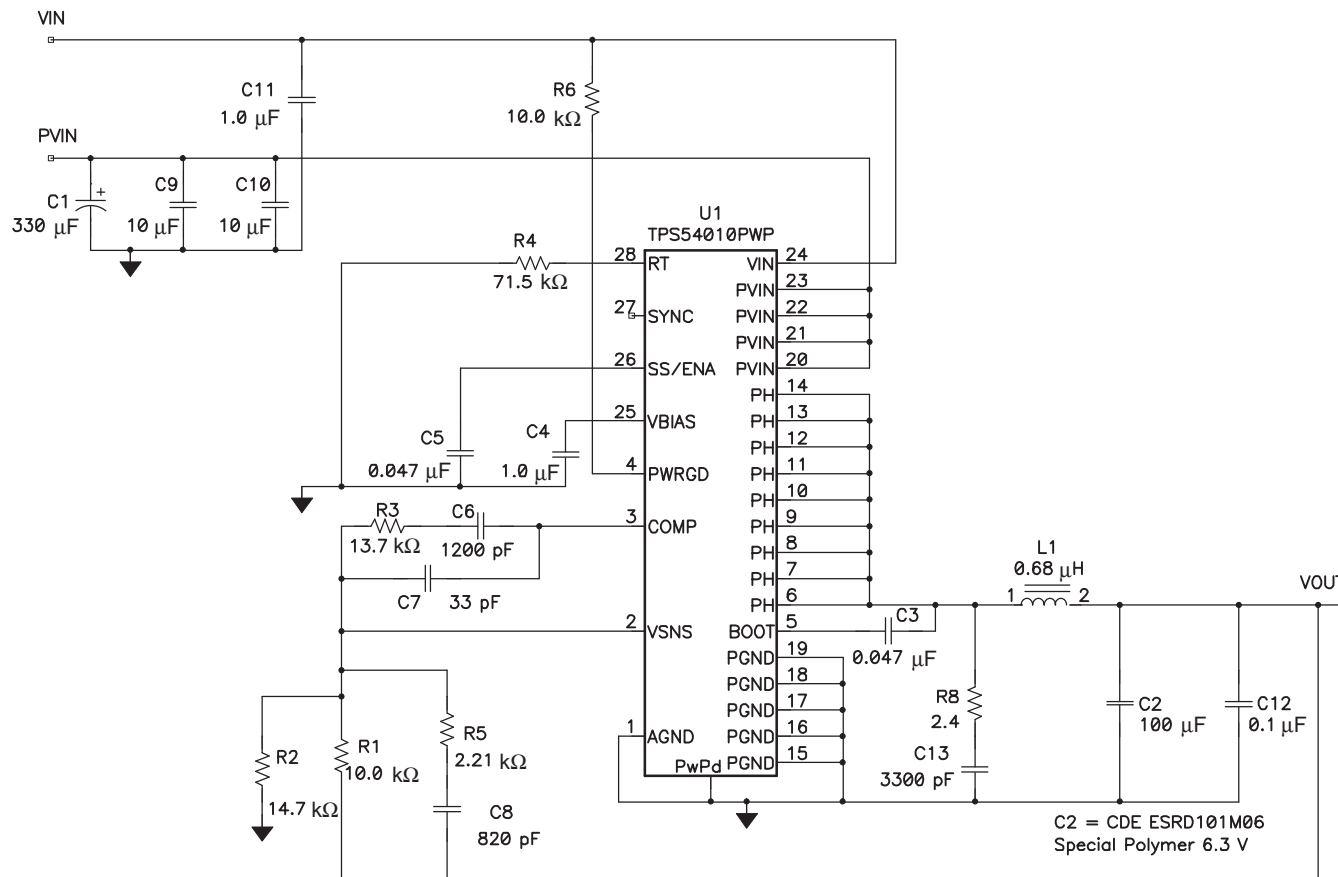

Figure 12. Application Circuit, 2.5 V to 1.5 V
(3) Specified by design from -40°C to 125°C
(4) Specified by the circuit used in Figure 12
Figure 12 shows the schematic for a typical TPS54010 application. The TPS54010 can provide up to 14-A output current at a nominal output voltage of 1.5 V. Nominal input voltages are 2.5 V for PVIN and 3.3 V for VIN. For proper thermal performance, the exposed PowerPAD underneath the device must be soldered down to the printed-circuit board.